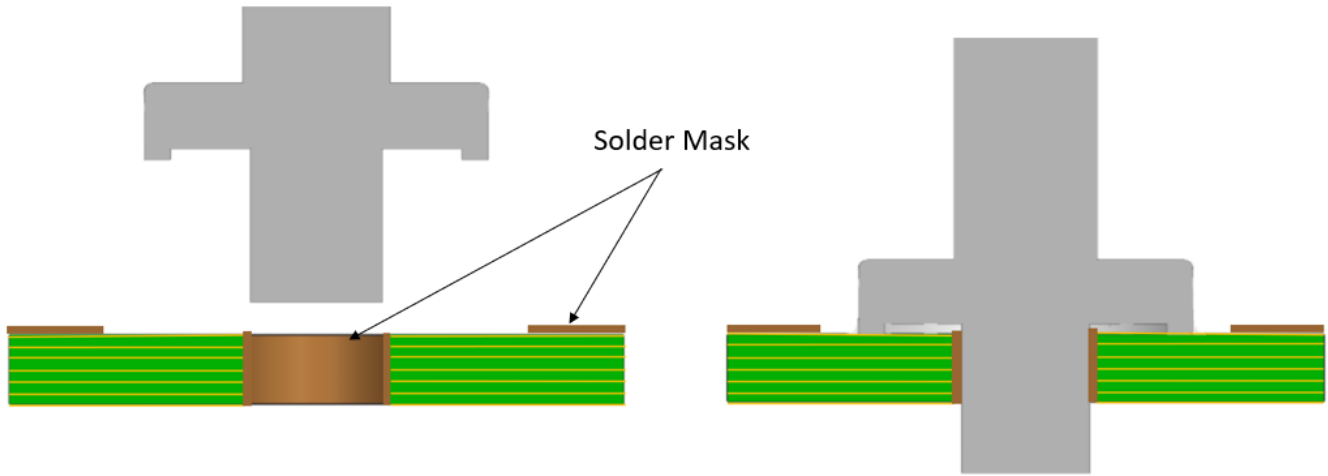

Figure 5.6.1
- a. It is recommended to use solder mask to cover the plated through hole and thermal vias to prevent the flow of the solder paste in the plated through hole and thermal vias region. Reference is show in the figure 5.6.1